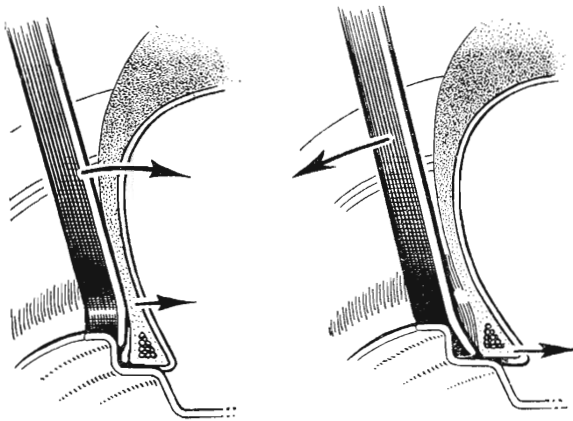

Fig. N.6. Removing a tyre bead off the rim.
- (1) Lay the wheel on the ground, with the valve uppermost. Deflate the tyre by removing the valve cap and interior.
- (2) Using tyre levers, which must be in good condition, separate the beads from the rim flange in the manner shown in Fig. N.6 until both beads are in the base of the rim. As inextensible wires are incorporated in the edges of the tyres, no attempt should be made to stretch the edges over the rim as the beads must in **NO WAY BE DAMAGED**. Keep the levers moistened with water.
- (3) With the bead of the tyre held in the base of the rim at a point diametrically opposite the valve, insert a lever close to the valve and carefully lift the tyre over the rim. Using two levers at intervals of about 6 in. (15 cm.) apart, continue to lift the tyre bead over the rim until this bead is entirely free.
- (4) Stand the tyre and wheel upright, keeping the bead in the base of the rim. Lever the bead over the rim flange, and at the same time push the wheel away from the tyre with the other hand to completely remove the tyre off the wheel.